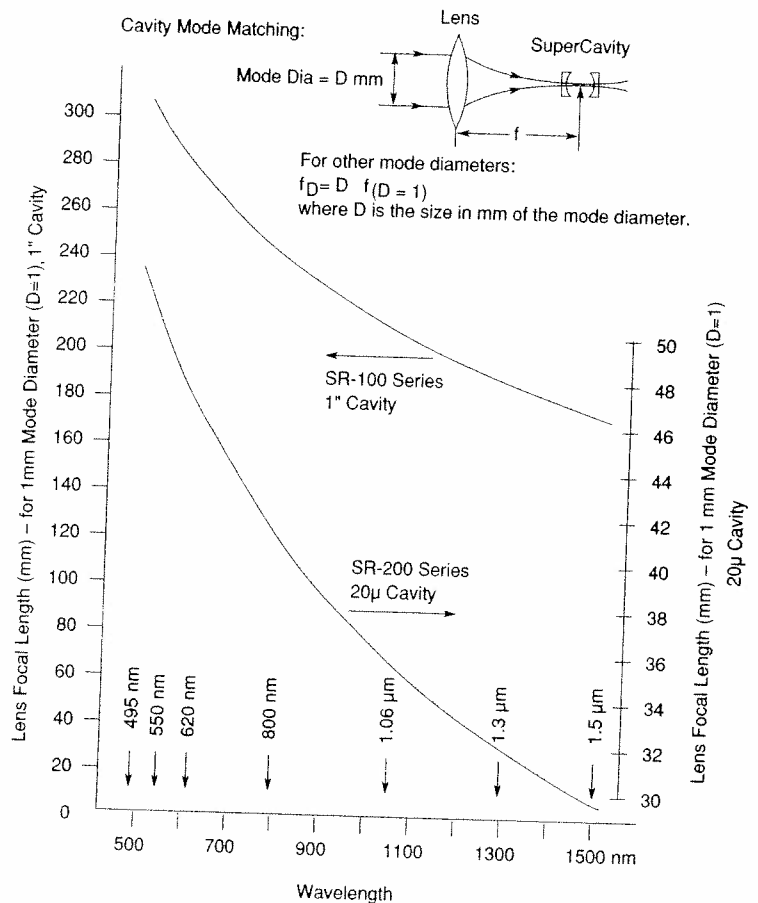

Figure 2. Cavity Mode Matching
Condition (8) is plotted in Figure 2 for both the 1" and the 20 micron cavities. The horizontal axis is the operating wavelength, while the vertical axis is the focal length (in mm) of the coupling lens for an input beam with a mode diameter of 1 mm ($D = 1$). For mode diameters other than 1 mm, the focal length of the coupling lens f_D is simply $f_D = Df_{(D=1)}$, where D is the number of mm of the mode diameter.
As the wavelength increases, the divergence angle of the source also increase ($w_1 = \text{constant}$). Hence, for a constant z_1 and w_1 , the spot size at the mirror becomes larger; therefore, a coupling lens of a shorter focal length is needed for efficient coupling. This trend is also shown in Figure 2.
In this case, Equation (8) overestimates the required focal length by the ratio w_2/w_1 , i.e. by the amount of growth of the spot size as compared to the beam waist. A more accurate estimate may be obtained by using Figure 2 and the same $f_D = D f_{(D=1)}$ formula except that the value used for the spot size is now twice the beam waist.
Mode matching conditions for 20 micron SuperCavities are given by Equations (7) and (8) and are shown in Figure 2 for both the near field and the far field limit.
Matching conditions for 1" cavities are given by Figure 2 for the far field limit. In the near field limit the conditions are given by Equations (11) and (12). No figure is generated for this case due to the sensitivity of the focal length to the ratio w_2/w_1 .